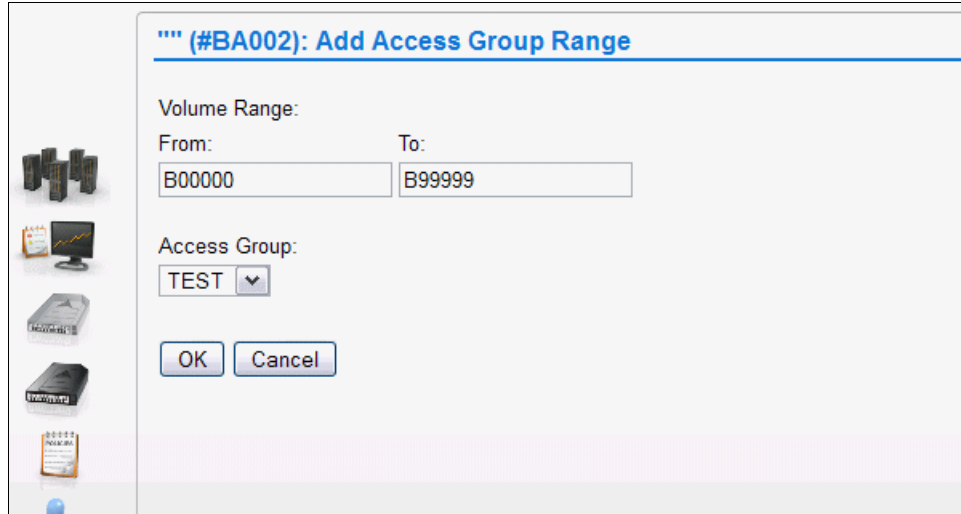

Figure I-15 Add VOLSER range for TEST LPAR
- Define logical volume ranges to the access groups, as shown in Figure I-15.